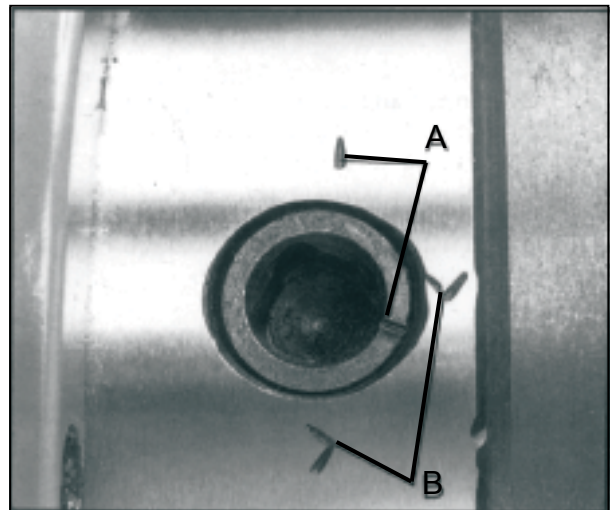

Fig. 3
5. Lift the chuck up to the spindle nose and press onto the spindle. Tighten in place by turning the cam locks 1/4 turn clockwise. The index mark (A, fig. 3) on the camlock should be between the two indicator arrows (B, Fig. 3). If the index mark is not between the two arrows, remove the chuck and adjust the camlock studs by either turning out one full turn (if cams will not engage) or turning in one full turn (if cams turn beyond indicator marks).